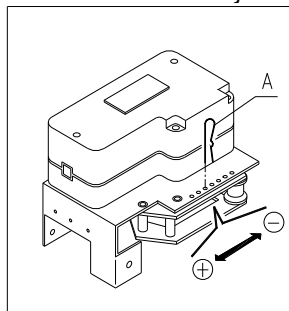

FIG. 14
8.8 ADJUSTING BELT TENSION FIG. 14